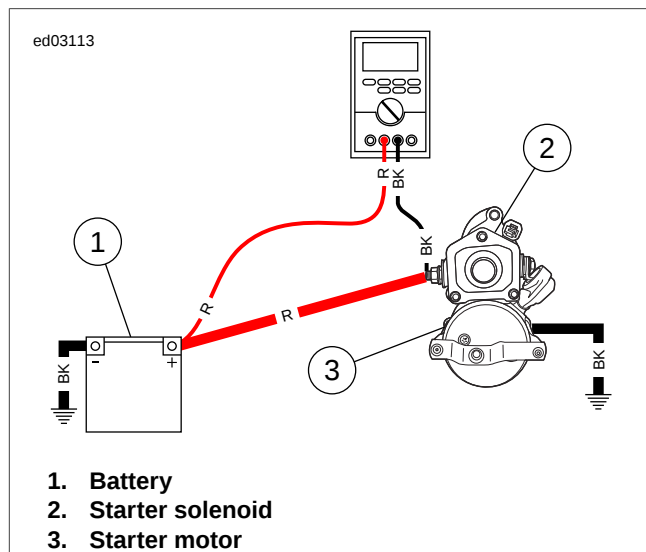

Figure 1-45. To Starter Solenoid Battery Terminal
2. See Figure 1-45. Move the black meter lead to the battery side post on the starter solenoid. Crank the starter.